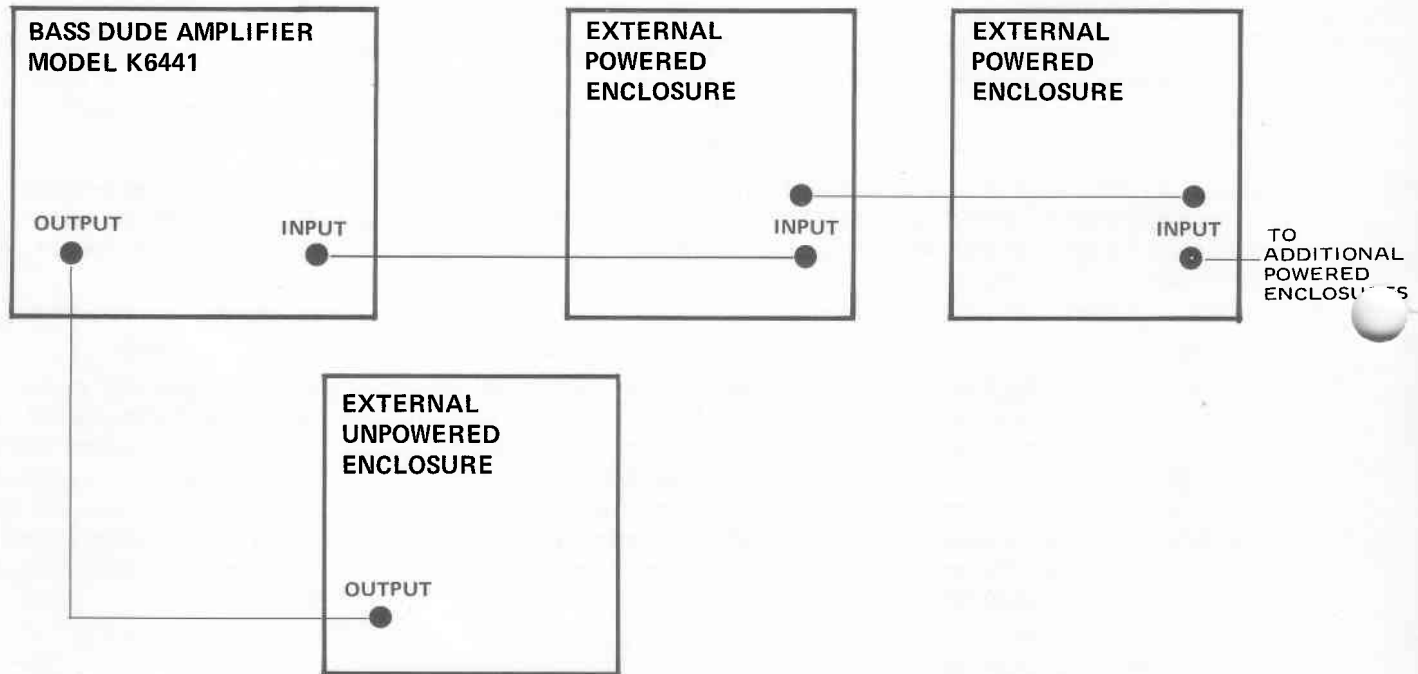

Figure 3. Typical Connections of BASS DUDE Amplifier, Model K6441, with External Enclosures
- I. **INPUT JACK (GREEN)** — The green INPUT jack allows more than one external powered enclosure to be connected in parallel, (with standard 1/4-inch phone plugs and shielded cords) for increased output. To make these connections, first connect the amplifier INPUT jack (green) to the green INPUT jack of the first external powered enclosure as shown in figure 3. If a second external powered enclosure is to be connected, make a connection from the remaining green INPUT jack on the first external enclosure to the green INPUT jack of the second enclosure. Connections to additional powered enclosures can be made by repeating this sequence. A 1-volt input signal will develop a full 100-watt rms output from the K6441 amplifier.
- J. **OUTPUT JACK (RED)** — The red OUTPUT jack may be used to drive unamplified speakers and Ovation Freq-Lites (see figure 3). The speakers in this enclosure are internally connected to the power amplifier and do not require any external connection. The red OUTPUT jack will accept a standard 1/4-inch phone plug with heavy, unshielded cord.